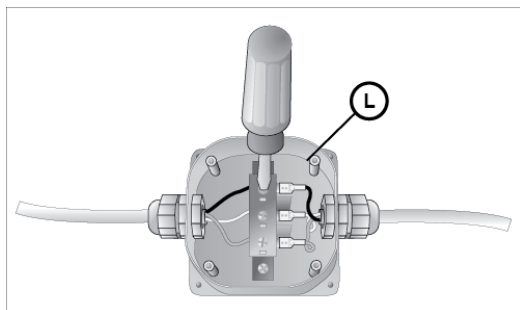

Figure 6
1. Remove the dishwasher electrical supply junction box (Part L) cover and connect to the power supply cord from the house installation. See **Figure 6**.
3. Insert the bare copper or green wire(ground) to the "G" $\perp$ ground connection of the terminal block and securely tighten the terminal block screw (see Figure 6).